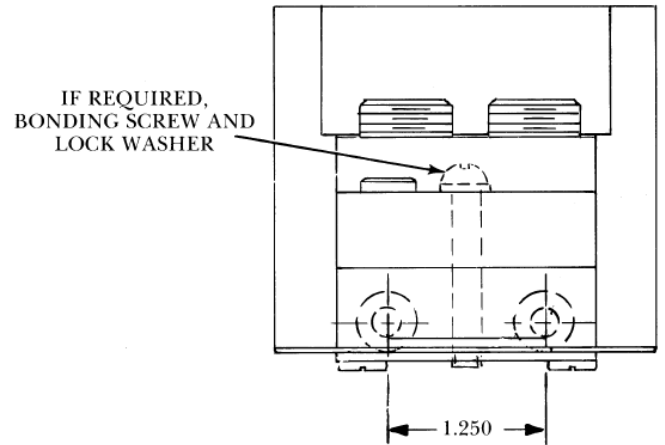

Figure 1 - Neutral
This kit is CSA listed for use as an insulated groundable neutral and may be installed in 200Amp type TH3364C and TH3364RC safety switches. Each kit contains the following parts (see Figures 1 and 2):
Step 3. Install bonding screw as shown in Figure 1 (if required). Torque fastener to 17-20 in-lbs.